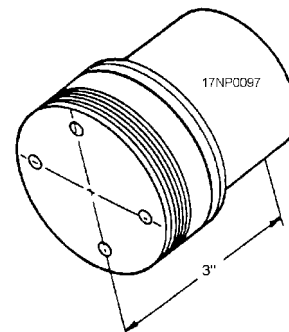

Figure 2-13.—Mk 193 Mod 0 mechanical time fuze.
**MECHANICAL TIME FUZES.**—Mechanical time fuzes (fig. 2-13) function by the action of a mechanical timer. These fuzes contain a safety/arming device and a clock mechanism. The arming mechanism is similar to those in impact detonating fuzes and requires a minimum acceleration over a given time to complete the arming cycle. Upon arming, the mechanical timer is started, and after a set elapsed time, the fuze initiates the firing train.